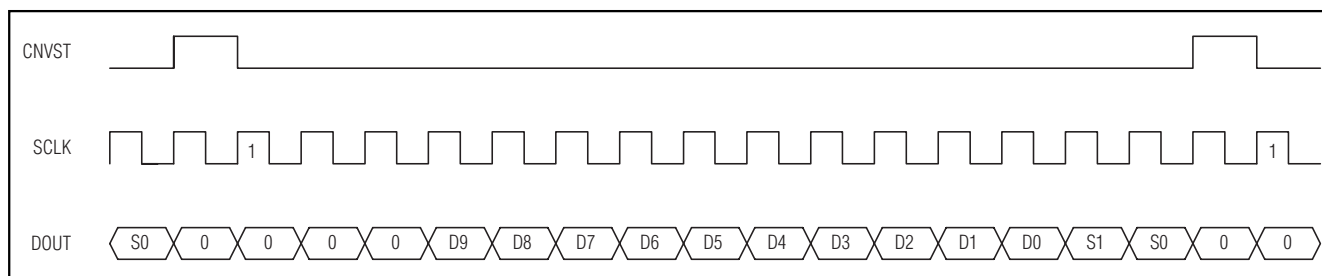

Figure 17. DSP Interface—Continuous Conversion
The MAX1076/MAX1078 can also be connected to the TMS320C54_ by using the data transmit (DX) pin to drive CNVST and the CLKX generated internally to drive SCLK. A pullup resistor is required on the CNVST signal to keep it high when DX goes high impedance and 0001hex should be written to the DXR continuously for continuous conversions. The power-down modes may be entered by writing 00FFhex to the DXR (see Figures 17 and 18).
can be selected to eliminate the need for writing to the transmit-data register more than once. For single conversions, idle CNVST high and pulse it low for the entire conversion. The ADSP21_ _ STCTL and SRCTL registers should be configured for late framing (LAFR = 1) and for an active-low frame (LTFS = 1, LRFS = 1) signal. This is also the best way to enter the power-down modes by setting the word length to 8 bits (SLEN = 1001). Connect the V_L pin to the ADSP21_ _ supply voltage when the MAX1076/MAX1078 are operating with a supply voltage higher than the DSP supply voltage (see Figures 17 and 18).